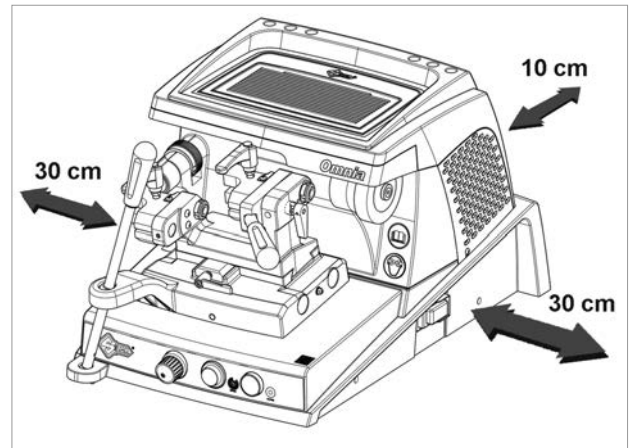

Fig. 29
- we recommend leaving a clearance of at least 10 cm behind the machine and 30 cm on each side to ensure good ventilation and facilitate handling (Fig. 29).